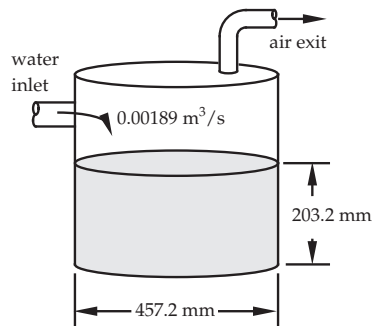

FIGURE P2.30.
30. Water enters the tank of Figure P2.30 @  $0.00189 \text{ m}^3/\text{s}$ . The inlet line is 63.5 mm in diameter. The air vent is 38 mm in diameter. Determine the air exit velocity at the instant shown.